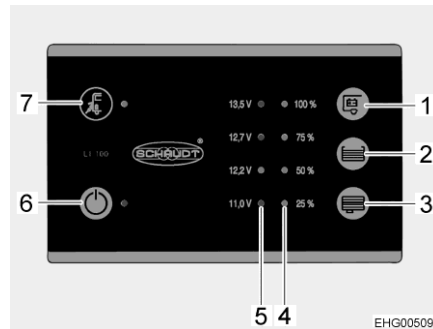

Fig. 73 Panel (LT 100)
The yellow LED at the mains connection symbol "⚡" (Fig. 73,7) is lit when the vehicle is connected to an external mains supply. In this case, the LED will also be lit when the panel is switched off.
The 12 V main switch (Fig. 73,6) switches the panel and the 12 V power supply of the living area on and off.
- Press switch "⏻" (Fig. 73,6): The 12 V living area power supply is switched on. The LED lights up green.
- Press switch "⏻" (Fig. 73,6) again: The 12 V living area power supply is switched off. The LED goes out.
The LED array (Fig. 73,5) displays the battery voltage of the living area battery as follows:
- Press the button " " (Fig. 73,1): The battery voltage of the living area battery is displayed.
The LED array (Fig. 73,4) displays the fill level of the fresh water tank or of the waste water tank.
Press the button "  " (Fig. 73,2): The fill level of the fresh water tank is displayed by lit LEDs.
Press the button "  " (Fig. 73,3): The fill level of the waste water tank is displayed by lit LEDs.